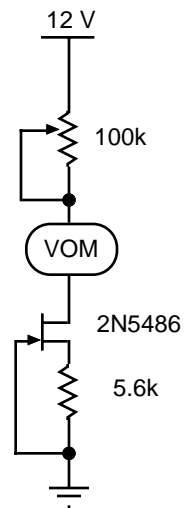

Fig 7.2
The circuit of Fig. 7.2 allows you to explore the behaviour of a JFET current source.
1. Calculate the current through the load for the circuit of Fig.7.2 assuming the JFET is in the current-source region. What are the limits (maximum or minimum) for the load resistance that allow the JFET to operate as a current source?